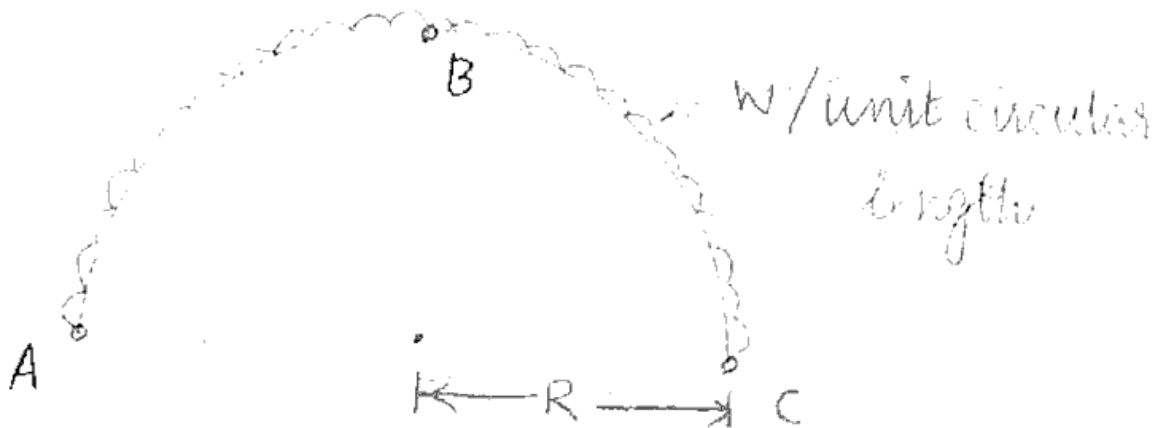

Fig. Q. 15 (a)
15. (a) Diagram fig. Q.15 (a) shows a curved beam, semi-circular in plan and supported on three equally spaced supports. The beam carries a uniformly distributed load of w/unit of the circular length. Analyse the beam and sketch the bending moment and twisting moment diagrams.